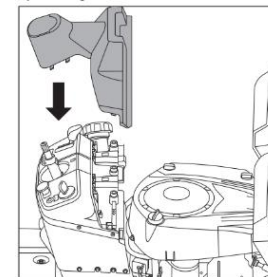

Fig. 3
1. Align the tabs of the dashboard steering cover with the designated holes and push them into place until they are engaged (Fig. 3)